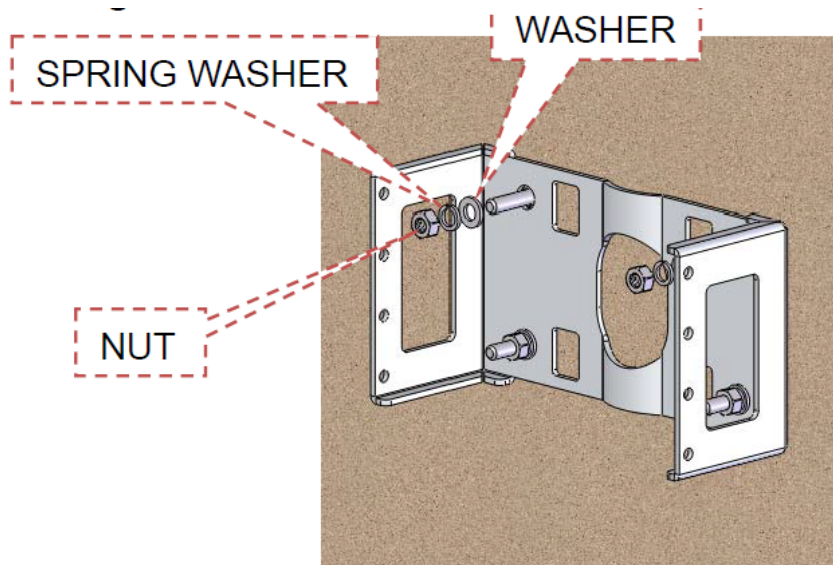

Figure 28
Step 4 Use M8 washer, M8 spring washer and M8 nut to bracket A onto the wall, as shown in figure 28